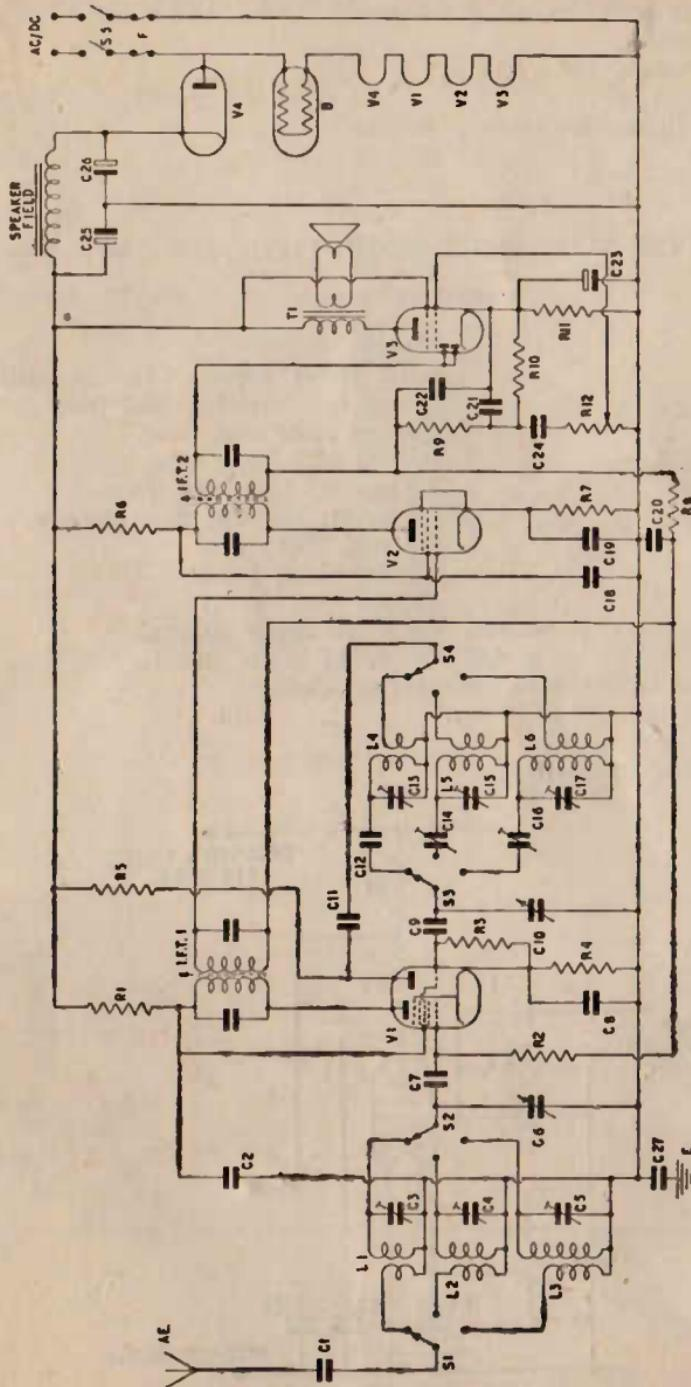

Fig. 28. A.C./D.C. Superhet Receiver.
A.C./D.C. SUPERHET RECEIVER—Fig. 28.